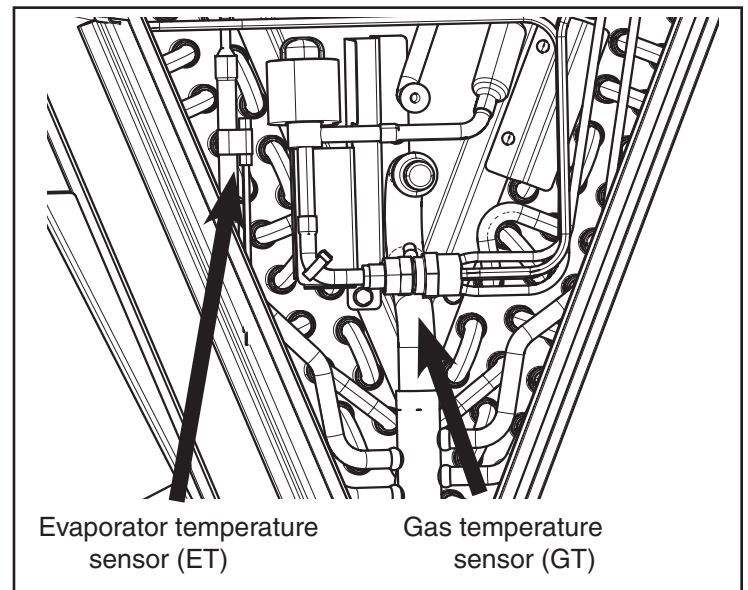

Figure 85 – Attach Evap Sensor (ET) and Gas Temp Sensor (GT)
12. Clip the gas temperature sensor (GT) to the suction line. Place supplied insulation over the sensor and secure with field supplied tie wrap as shown in Figure 85.
13. Clip the evaporator temperature sensor (ET) to the 3/8" part of the distributor tube. There is one distributor tube that steps down from 3/8" to 1/8". Place supplied insulation over the sensor and secure with field supplied tie wrap as shown in Figure 85.